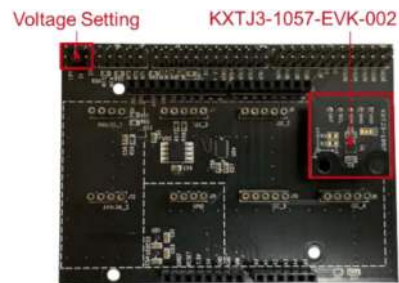

Figure 2. Board Connection and Voltage Setting
2. Connect KXTJ3-1057-EVK-002 to the socket of I2C area on Shield for Arduino. (Figure 2)
3. Set the voltage of Shield for Arduino to 1.8V or 3.0V. (Figure 2)